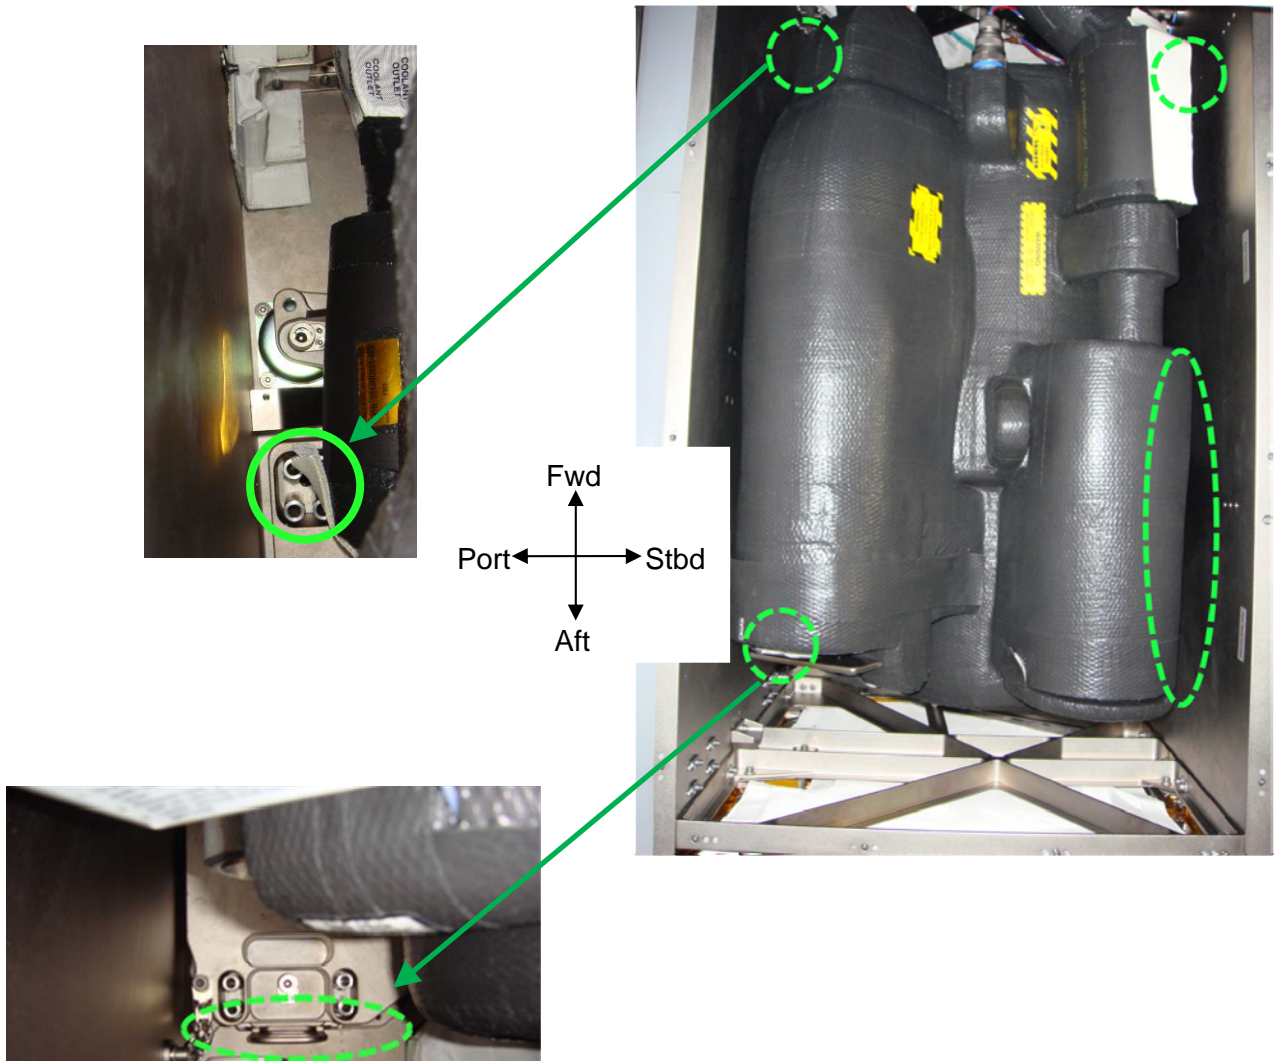

Figure 6.- AVM Launch Bracket Launch Bolts Locations.
- 3.1 Remove Fwd Port LTL PPA AVM Launch Bracket Launch Bolts (four) (Ratchet, 1/4" Drive; 10" Ext, 1/4" Drive; 6" Ext, 1/4" Drive; 4" Ext, 1/4" Drive; 1/2" Socket, 1/4" Drive). Refer to Figure 6.
- 3.2 Remove Aft Port LTL PPA AVM Launch Bracket Launch Bolts (four) (Ratchet, 1/4" Drive; 10" Ext, 1/4" Drive, 6" Ext, 1/4" Drive; 4" Ext, 1/4" Drive; 1/2" Socket, 1/4" Drive). Refer to Figure 6.
Refer to Figures 6, 7, 8.